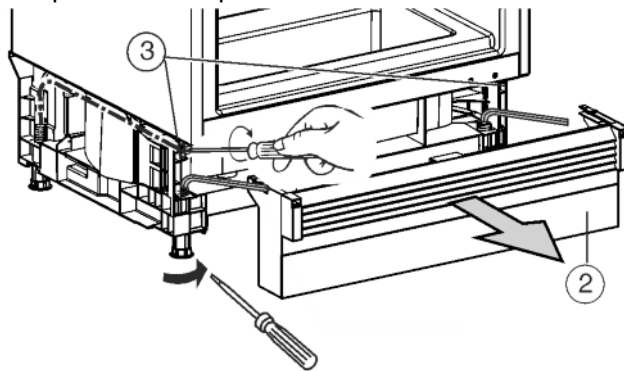

Fig. 10
- Remove the plinth trim Fig. 10 (2).
- Unscrew the rear adjusting feet Fig. 10 (3) with a screwdriver and the front adjusting feet with an Allen key 8 in an alternating manner until they are just below the worktop.
- Unscrew the rear adjusting feet Fig. 10 (3) with a screwdriver and the front adjusting feet with an Allen key 8 (for screwed in adjusting feet) or screwdriver (with unscrewed adjusting feet) in an alternating manner as far as possible. The maximum adjustment distance is 1-31/32 " (50 mm).